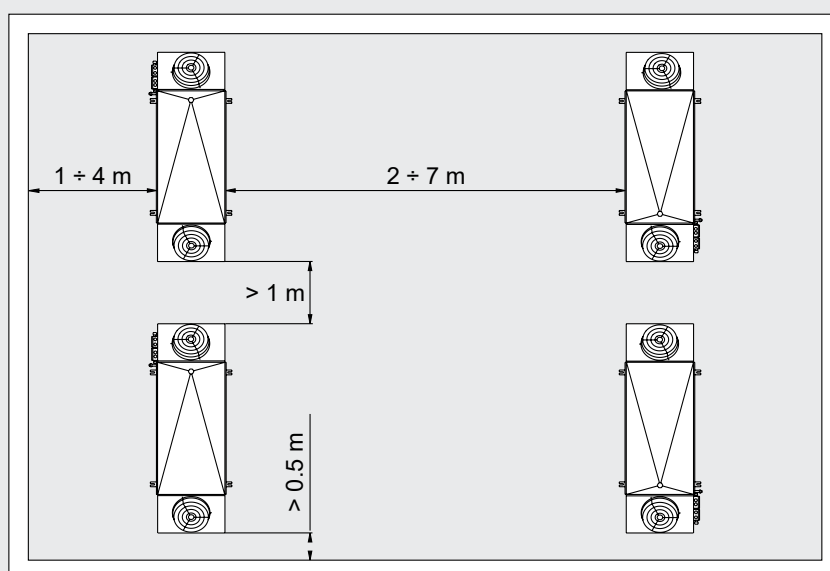

Figure 4
- 6.9 Ensure an adequate free space (approx. 30% of the inner room volume) to allow a proper intake and exhaust air circulation. Keep the minimum distance so as to take out / insert the heaters. For the installation of more than one unit in the same cold or air-conditioned room it is necessary to respect the dimensions indicated in "Figure 4".